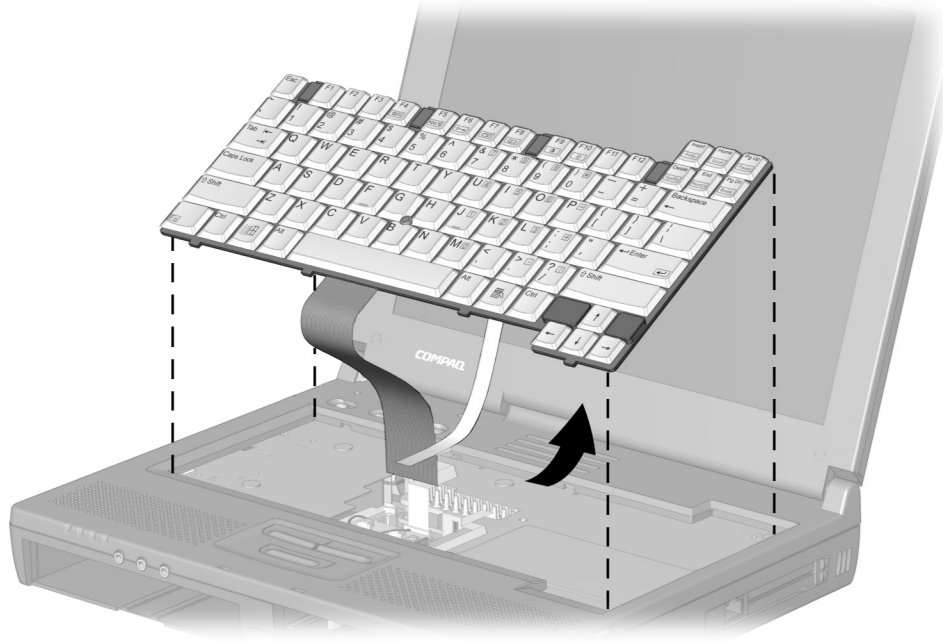

Figure 5-31. *Removing the Keyboard Assembly*
11. Remove the keyboard assembly (Figure 5-31).